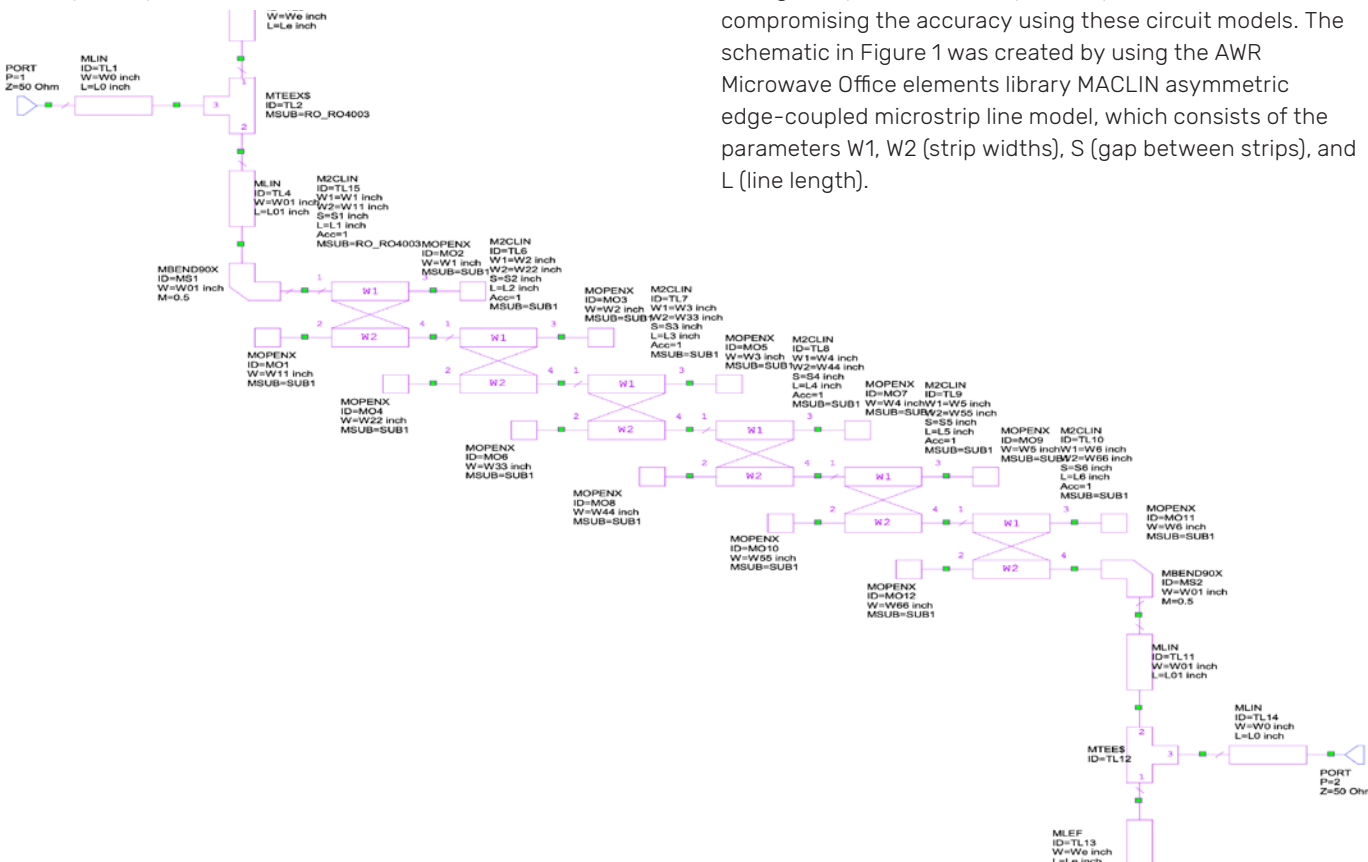

Figure 1: Layout of the BPF in AWR Microwave Office software.
Models can be created for many basic components (transmission lines, coupled lines, MCROSSX, MTEEX\$, MSTEPX, and more). The electromagnetic (EM)-based X model elements and “S” based intelligent models were found to be more accurate compared to EM simulation. Simulation, tuning, and parameter sweeps were possible without compromising the accuracy using these circuit models. The schematic in Figure 1 was created by using the AWR Microwave Office elements library MACLIN asymmetric edge-coupled microstrip line model, which consists of the parameters W1, W2 (strip widths), S (gap between strips), and L (line length).